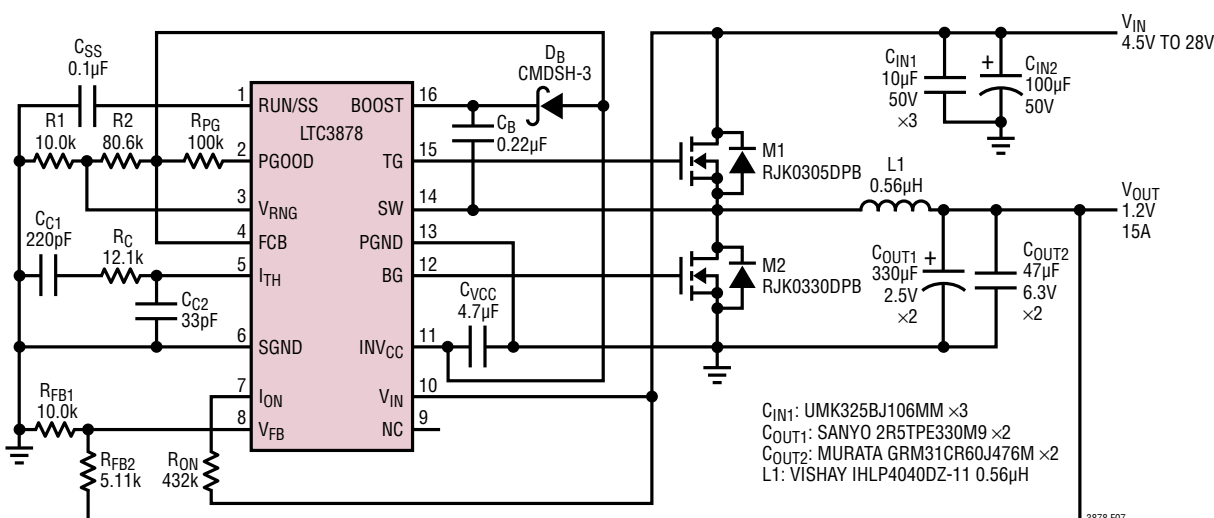

Figure 7. Design Example: 1.2V/15A at 400kHz
Figure 7 is a power supply design example with the following specifications: $V_{IN} = 4.5V$ to 28V (12V nominal), $V_{OUT} = 1.2V \pm 5\%$, $I_{OUT(MAX)} = 15A$ and $f = 400kHz$. Start by calculating the timing resistor, R_{ON} :
- When laying out a printed circuit board without a ground plane, use the following checklist to ensure proper operation of the controller. These items are illustrated in Figure 7.